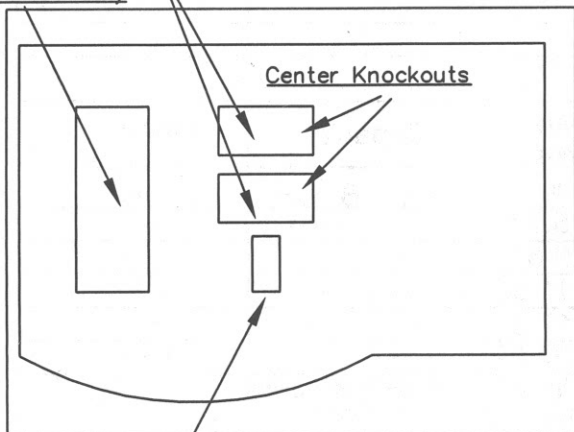

FIGURE 5
- 15.) Remove the appropriate breaker knock-out plates from the blower access panel. Cut and remove insulation behind the knock-out. (See fig. 5)
- 12.) Remove the appropriate breaker knock-out plates from the blower access panel. Cut and remove insulation behind the knock-out. (See fig. 5)